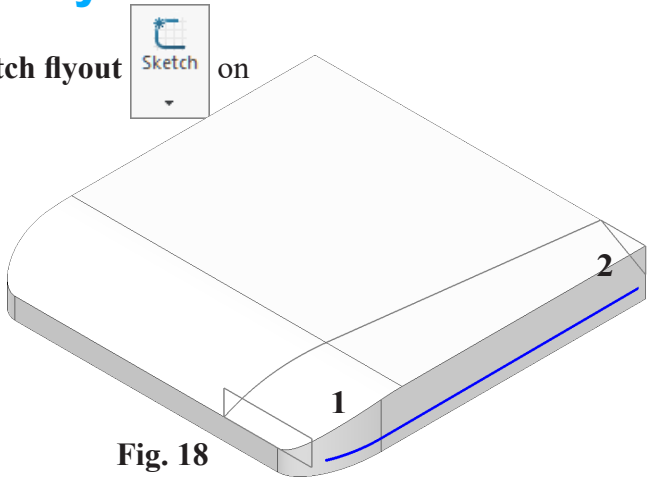

Fig. 18
Step 3. Sketch a **2 point Spline** on **side surface of body**, **Fig. 18**. Start near Sketch2 (rectangle) and end near Sketch3 (triangle). Press Escape to end spline.